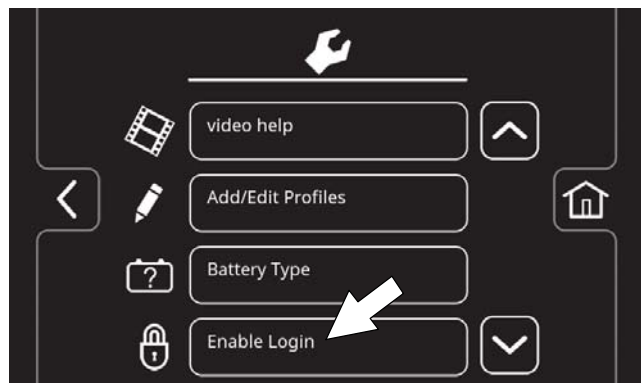

FIG. 179
4. Press the Enable Login button (Figure 179). The Enable button will change from Enable Login to Disable Login.